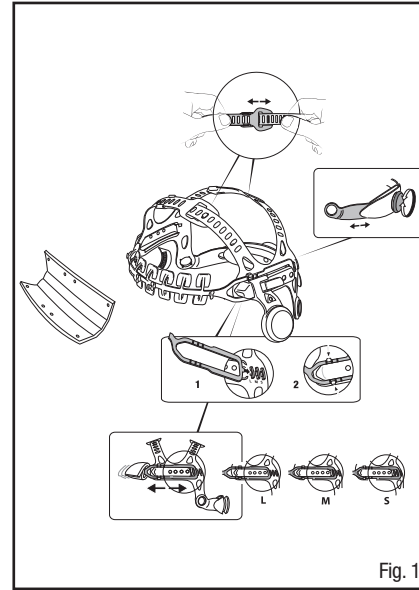

Fig. 1
1. Place the 3M™ Speedglas™ Welding Helmet 9100 FX-Air on the head and tighten the ratchet on the back of the headgear (Fig.1) until a comfortable, but secure fit is achieved. If a comfortable fit cannot be achieved using the ratchet alone, use the coarse adjustment of the front headband where the L, M, S adjustment are as shown in the bottom of Fig. 1. L refers to a larger head circumference, M is for medium head circumference and S is for smaller head circumference. Adjust the coarse adjustment based on the head circumference, and then replace the helmet on the head and tighten the ratchet to achieve a comfortable but secure fit. For additional adjustment, the ratchet may also be turned 180 degrees to achieve a slightly different fit based on position as shown in Fig. 2.
2. The 2 top crown straps should be adjusted to assure that the weight of the helmet is distributed and carried evenly on the top of the head. With the helmet on, and the ratchet tightened, check to make sure that both crown straps are adjusted so that there is no excess space or gaps between the top of the head, and the crown straps. At times the back crown strap may be too large, and cause a gap, but this is not an appropriate manner of wearing the helmet. If there is a gap, adjust the crown straps by sliding and tightening as shown in Fig. 1. If there is no gap, but the helmet feels as though it is too high on the head, loosen the crown straps until a comfortable height is achieved.